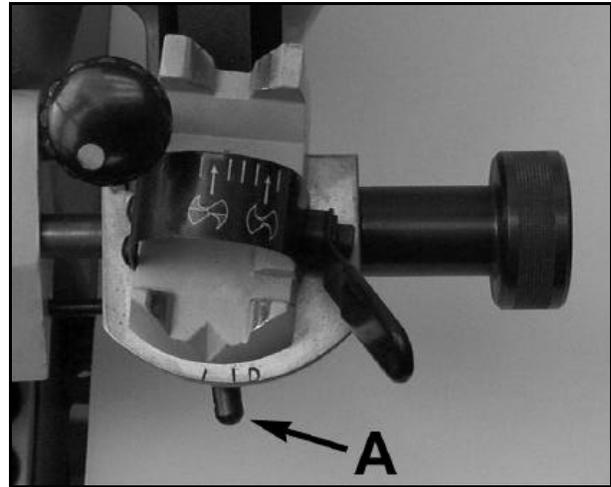
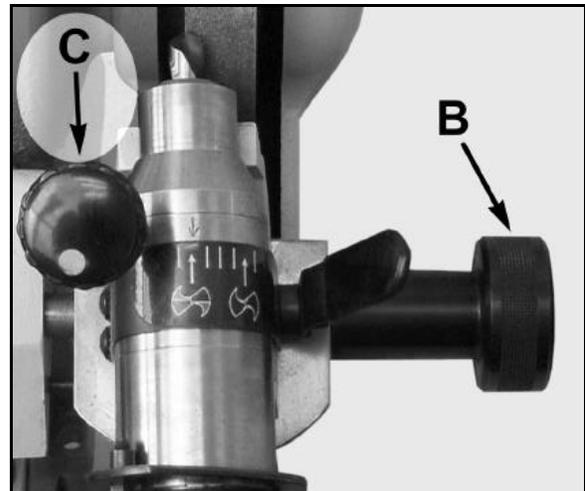

Figure 1
Figure 2
1. Loosen chuck holder by moving handle "A" to the left, see figure 1. Swing the chuck holder all the way counterclockwise. Then tighten the chuck holder handle. Rotate the cross feed knob "B", see figure 2, to position the center of the drill in line with the Left Edge of the wheel. Use feed knob "C" to feed for desired depth of split.
2. Splitting the point will always require that you intersect the chisel line on the tip of the drill. To do this correctly on a left hand drill instead of pointing the chisel line straight down or parallel to the side of the wheel, rotate the drill so the chisel edge points down and towards the wheel and is ground away in the splitting process. (See fig. 2)